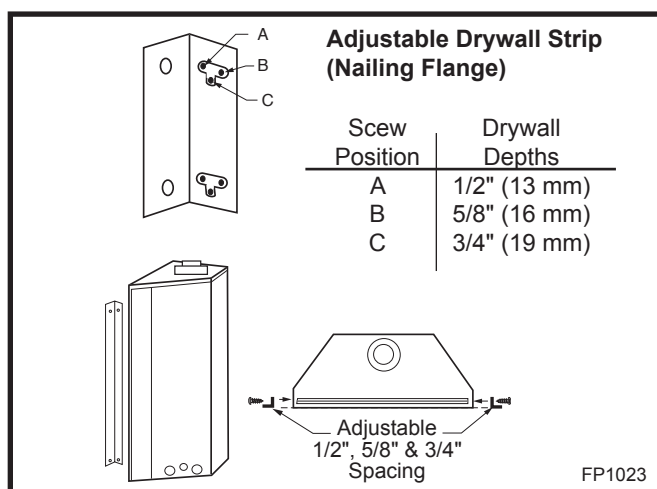

Fig. 4 Adjustable drywall strip (nailing flange).
4. Attach heater to frame using adjustable frame drywall strips (located behind access door for shipping). Preset depth to suit facing material (adjustable to 1/2", 5/8" or 3/4" depths). (Fig. 4)
5. Use existing screws in side of unit to attach drywall strip. Measure from face of heater to face of drywall strip to determine final depth. (Fig. 4)